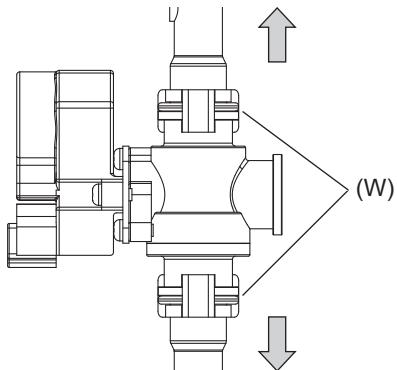

Fig.20
- (2) Remove the clips (W) on the inlet/outlet of the FCV. (Fig. 20)
(Fig. 20)
- (3) Remove the inlet/outlet piping connecting the FCV. (Fig. 20)